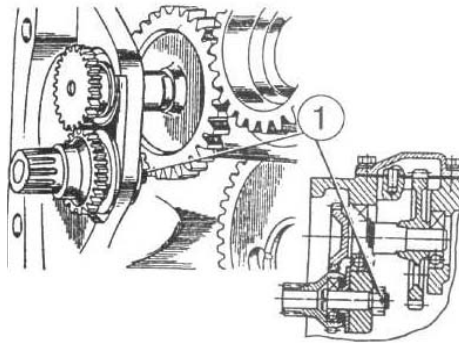

Figure 4.34
- a) unpin and unscrew nut 1 (Figure 4.34);